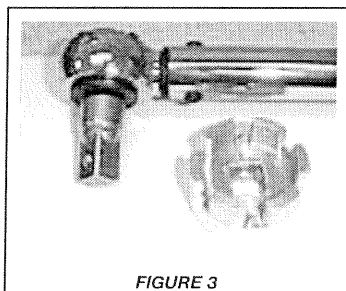

FIGURE 3
2. Using a wrench and a Rieke model W-405 socket head (fig. 3 & 4), tighten down the cap to 10-foot pound pressure.